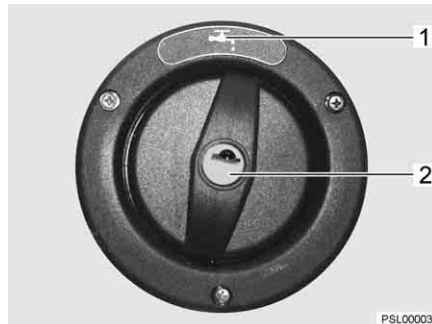

Fig. 237 Cap for the drinking water filler neck
The drinking water filler neck is indicated by the symbol "☞" (Fig. 237,1). The cap is open and closed using the key for the external flap locks.
- Insert key into locking cylinder (Fig. 237,2) and turn a quarter turn in an anticlockwise direction.